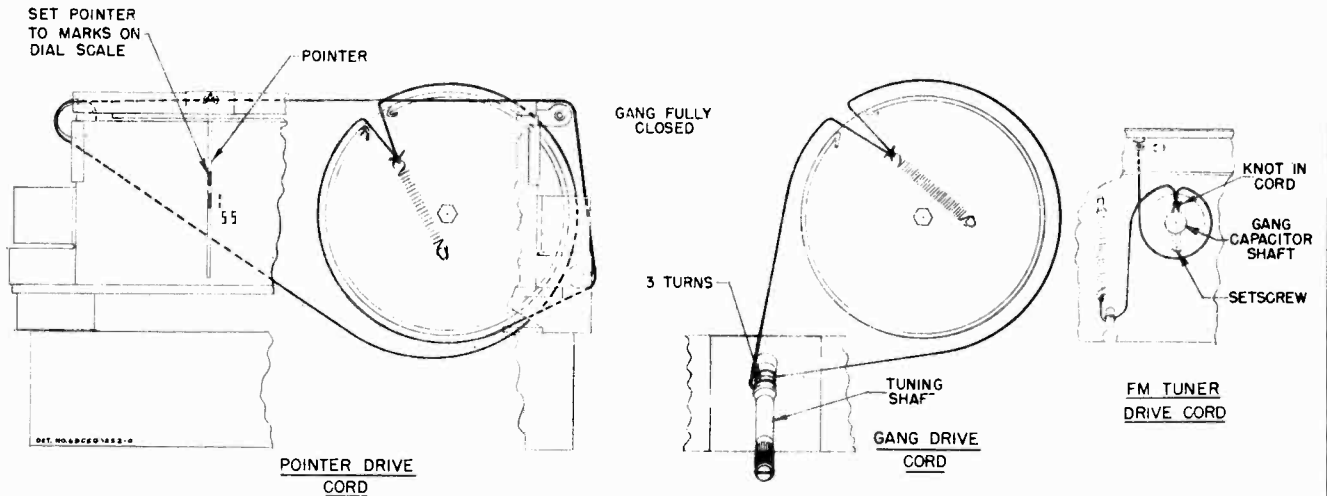

FIGURE 4. DIAL RESTRINGING DETAIL
- 2 (A) FM Band IF & RF Alignment (Preferred Method)
1. With the gang fully closed, adjust the pointer to coincide with the calibration marks at the left of "55" on the dial scale. See Figure 4.